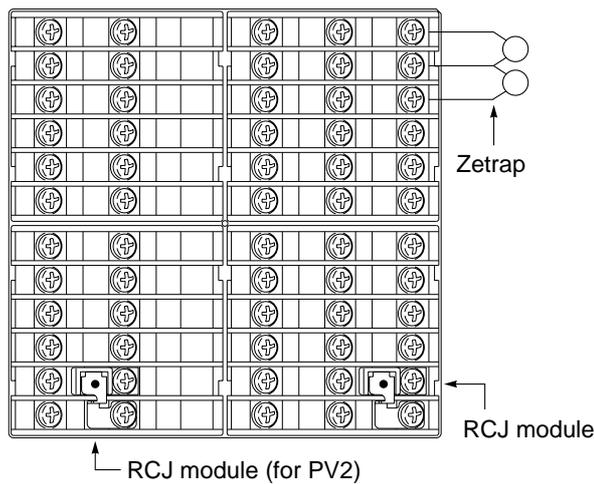

Fig. 5 Attachment position of Zetrap and RCJ module
Attachment position : Please connect between the relay control output connection points. (Refer to Fig. 5.)
- If using a thermocouple input, make sure that an RCJ module is connected as shown in Fig 5. (If an RCJ module is not connected, the temperature measurement cannot function.)